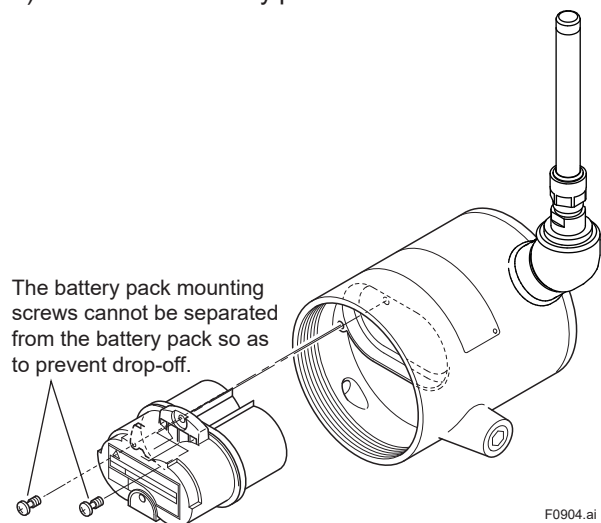

Figure 9.4 Removing the Battery Pack
- 3) Loosen the two power supply module mounting screws (see Figure 9.4).